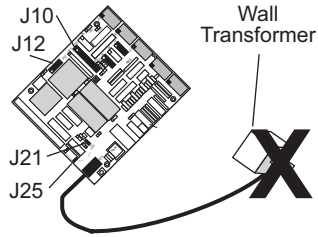

Figure 3-7. Power Supply Connection
1. Plug the free end of the power supply into the BL1100 power jack as shown in Figure 3-7.